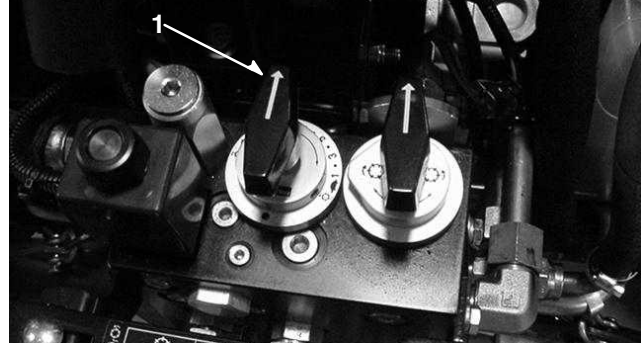

Figure 36
- Turn the reel speed control knob (Fig. 36) to the number setting determined in step 1.